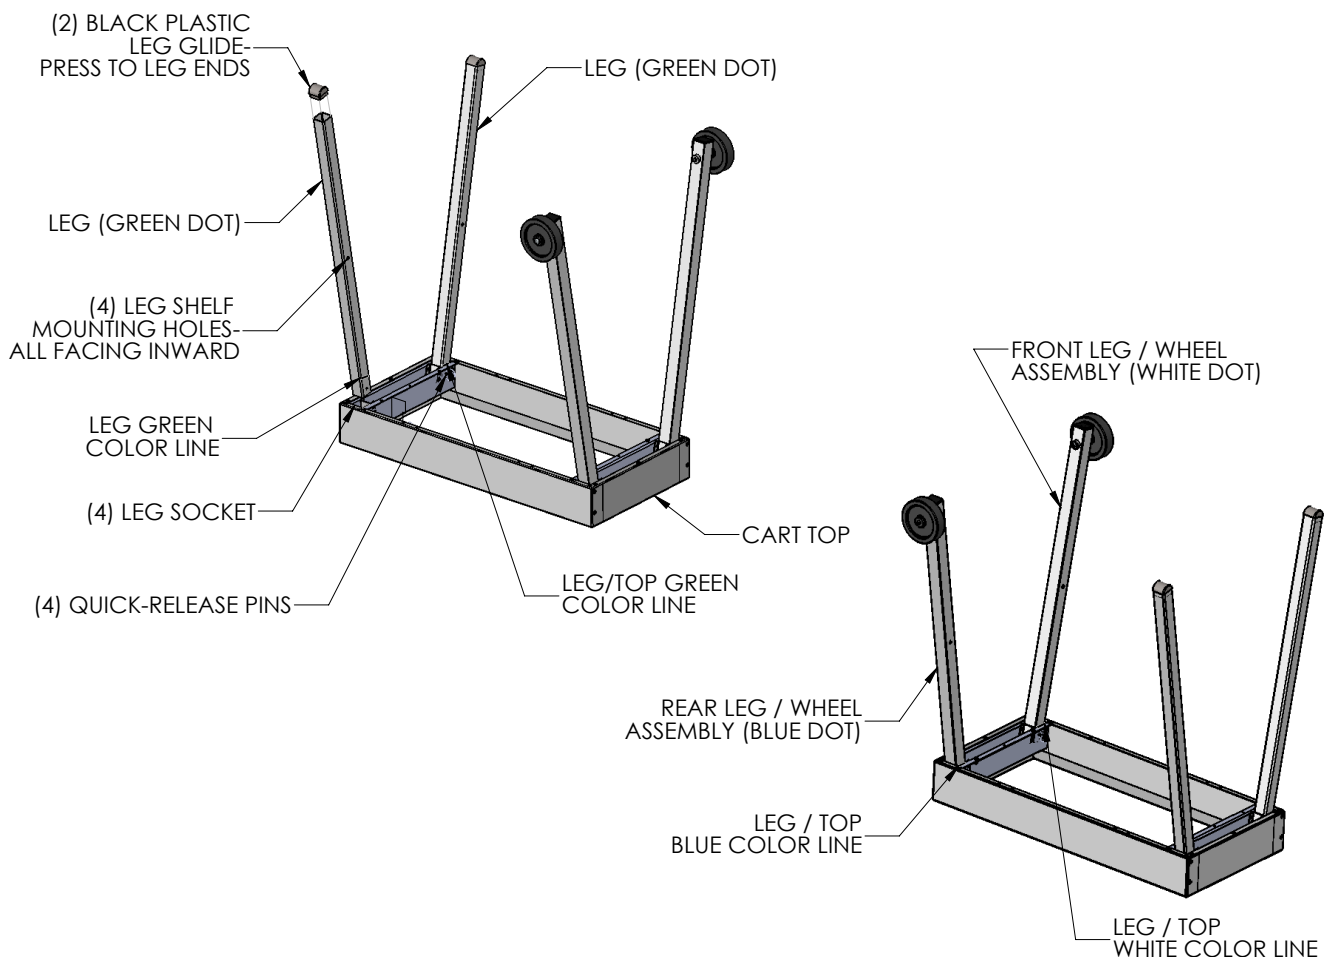

FIGURE 4 - LEG/TOP ASSEMBLY
- a. Place the grill cart top on the work surface with the leg sockets facing up. The color paint marks will be visible along the sockets. Refer to figure 4.
- b. Remove the (4) quick release pins from the hardware kit.
- c. Slide each leg into the socket with the corresponding color mark, mating the lines of the legs to the lines of the cart top as shown in figure 4. The fit may be snug, you may need to wiggle the leg around to get it to seat fully.
- d. Slide (1) quick release pin into each hole in the side of each leg socket. Use caution while assembling to avoid slipping of the hand onto adjacent sheet metal edges. You may need to move the legs a bit to align the holes of the leg to those of the leg channel. The pins are installed fully when the ring on the pin is flush against the leg socket channel.